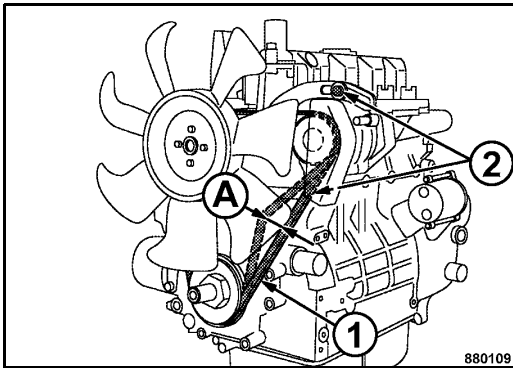

Fig. 149
- Inspect the entire circumference of the V-belt (1) (Fig. 149) visually for damage and cracks.
- Check with thumb pressure whether the V-belt can be depressed more than 7 to 9 mm (A) between the V-belt pulleys, retighten if necessary.